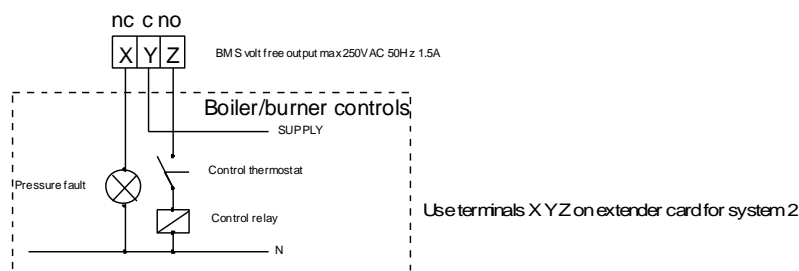

Fig 1.9 Typical Boiler Interrupt Circuit
- 1.3.6.4 Make any BMS connections required to terminals A-Z on Interface card (& extender card on Dual System unit DS) inside control panel. Connect boiler/chiller terminals nos. X,Y,Z on interface card (& extender card on Dual System unit DS) in series with the boiler/chiller control circuits so that in the event of a fault condition occurring the boiler/chillers shut down and remain inoperative until the fault condition is rectified. A typical arrangement is shown in fig 1.9.